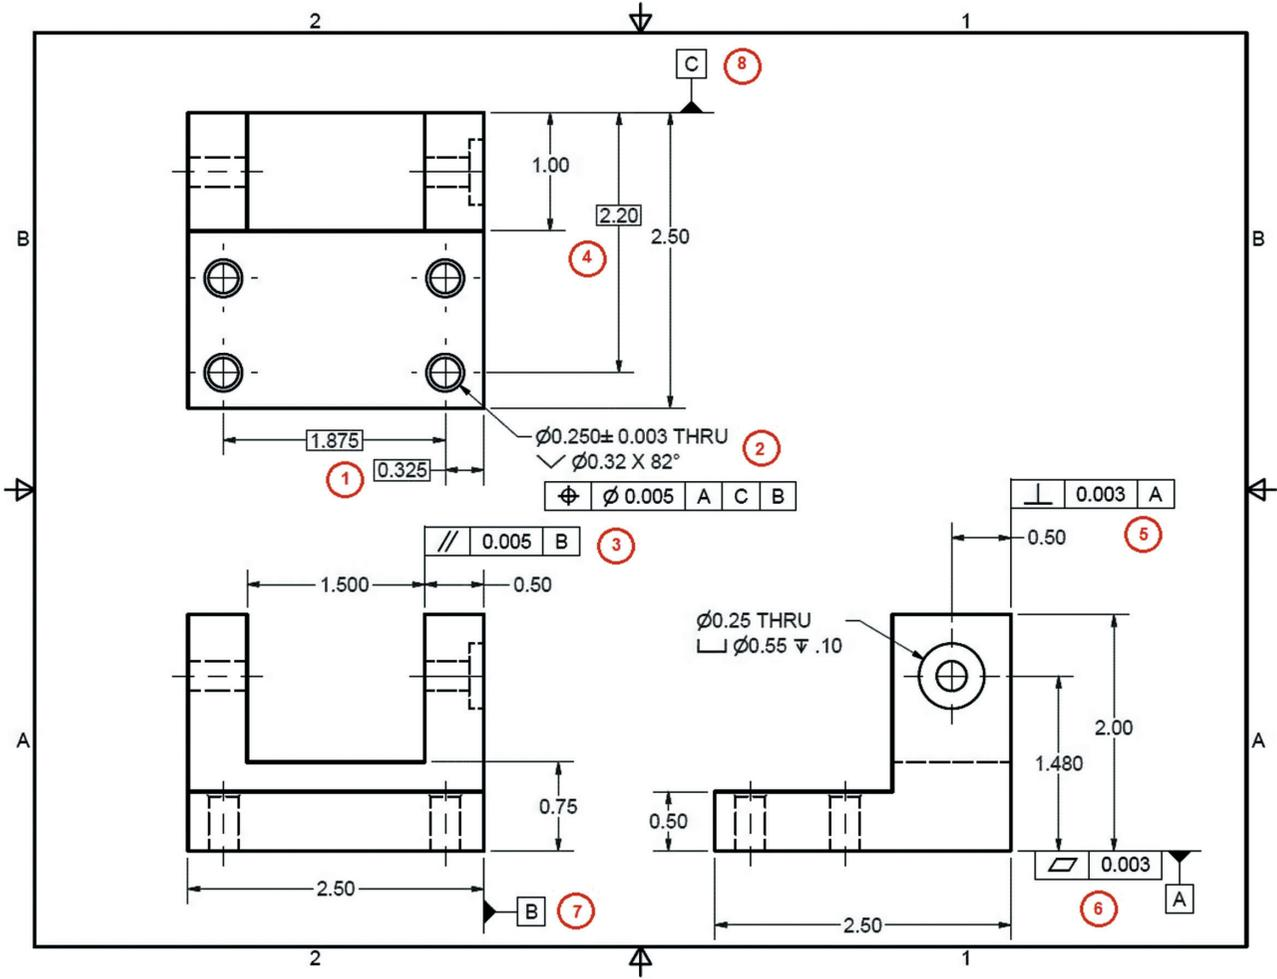

Figure A-114 Drawing for question 6.
6. Explain the following based on the blueprint in Figure A-114.